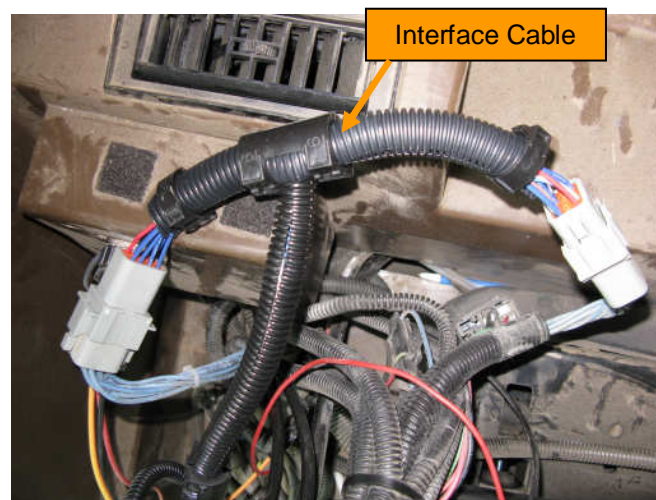

Fig. 2: AutoMate interface cable connected
3. Insert the tee connector of the AutoMate Interface Cable (**A**) to the boom switch cable (Fig. 2).